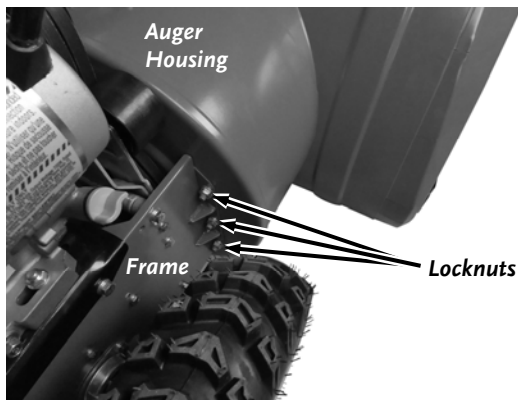

Figure 51
5. Remove the three Locknuts from the right side of the Transmission Box using a 13mm Wrench (**Figure 51**).
12. Install the Locknuts that secure the right side of the Frame to the Auger Housing (**Figure 51**).